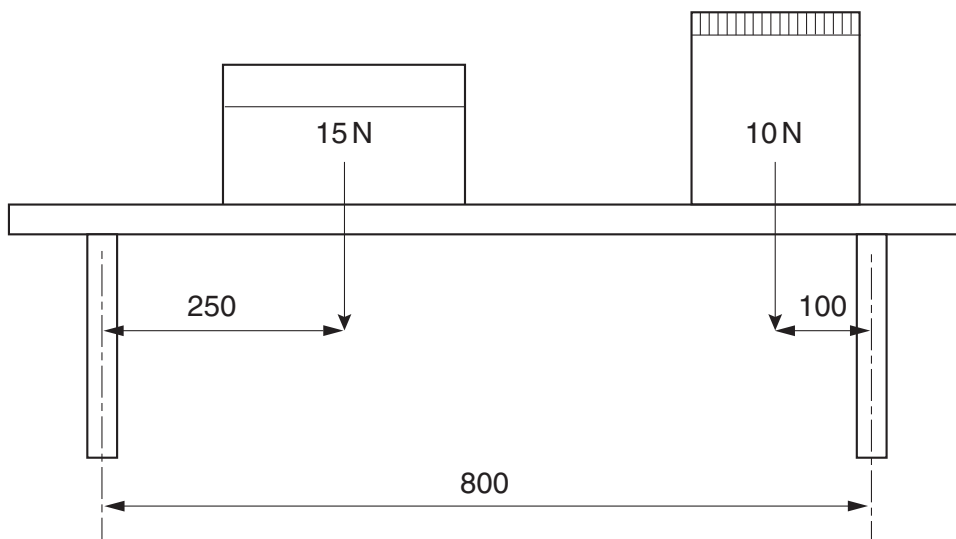

Fig. 11
- 3 (a) Fig. 11 shows a shelf in a designer's studio.